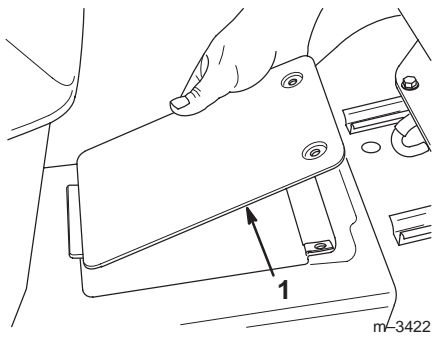

Figure 33
- Open the drive shaft maintenance cover on the tractor tunnel near the seat by unscrewing the two screws securing it, then raising it (Fig. 33).